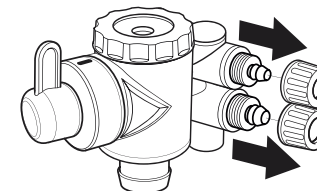

Figure 3.19 – Removing Connector Fitting Nuts
7. Remove the connector fitting nuts from the diverter (see Figure 3.19).